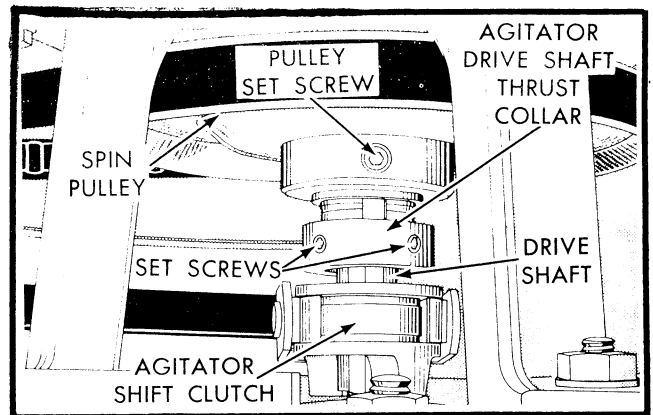
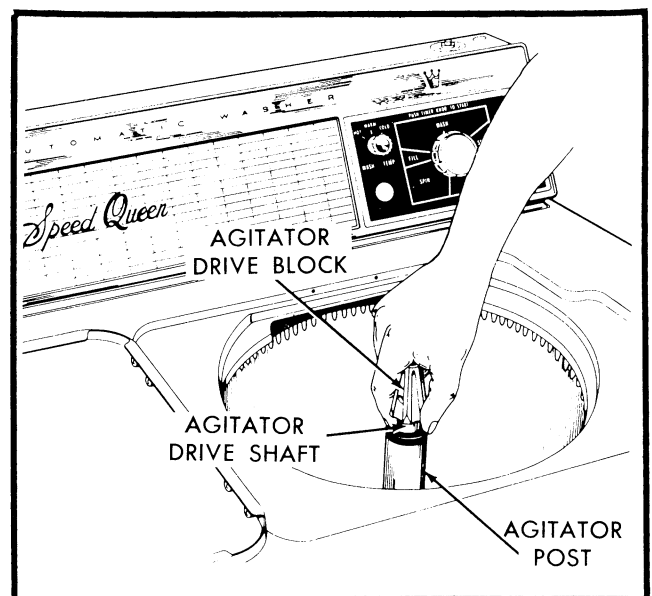
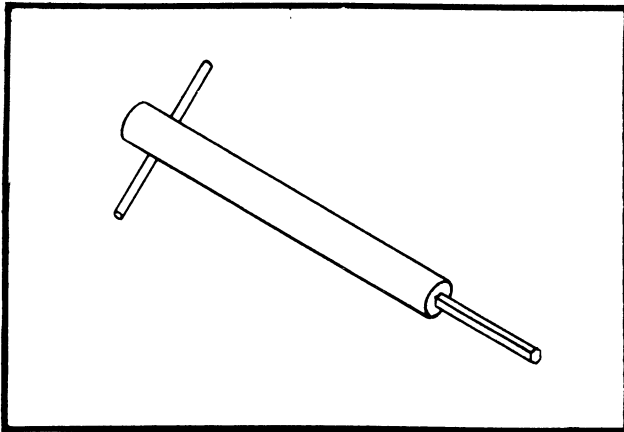
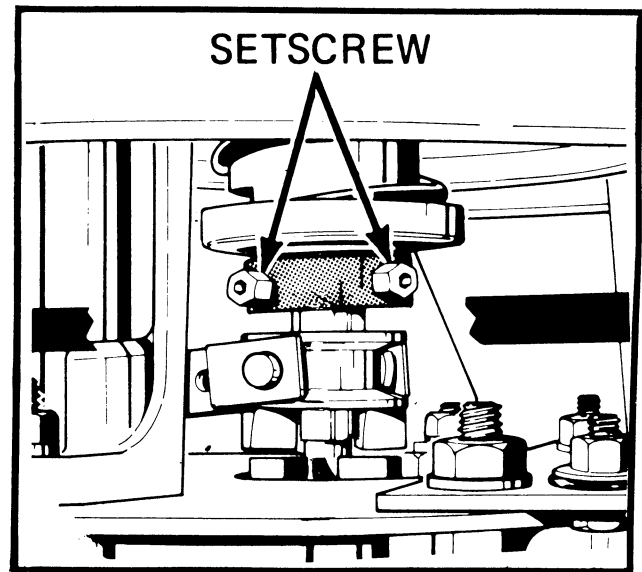

Figure 131
Figure 132—Removing Agitator Shaft
Figure 133—Special Allen Wrench
Figure 136
There are two types of agitator shafts used in the Speed Queen Automatic Washer. The only difference between these two shafts is the bearing surface at the top of the shaft. Although these shafts may vary slightly in appearance, they are removed in the same manner. Loosen the two set screws in the thrust collar, *Figure 131*, and slide the thrust collar down. The agitator shaft can now be lifted out of the agitator post, *Figure 132*. A long $\frac{5}{64}$ " Allen wrench shown in *Figure 133*, will facilitate loosening or tightening the set screws in the thrust collar. The reinstallation of the two agitator shafts is somewhat different.
On the early model washers the shaft is pushed through the new bearings and seal and held down tight against the agitator post. The thrust collar is then pushed up snug to the spin pulley, *Figure 131*, and the set screws are tightened. Excessive end play in the shaft can cause a knock and may allow clothes to lodge under the agitator.
2. Loosen the set screws as shown in *Figure 136*, refer to text on page 65, AGITATOR SHAFT, and page 67.
1. Remove the four caps screws as illustrated in *Figure 136*.
Figure 136 illustrates the agitator thrust collar set screws. Early model can be seen in Figure 131. The agitator shaft can be removed by loosening the two screws and pulling the shaft up through the top of the washer. The new shifter fork can also be seen in Figure 136, as it engages the agitator shift clutch. The other end of the shifter fork engages the underside of the transmission pulley. See text "OPERATION OF THE TRANSMISSION DRIVE PULLEY."